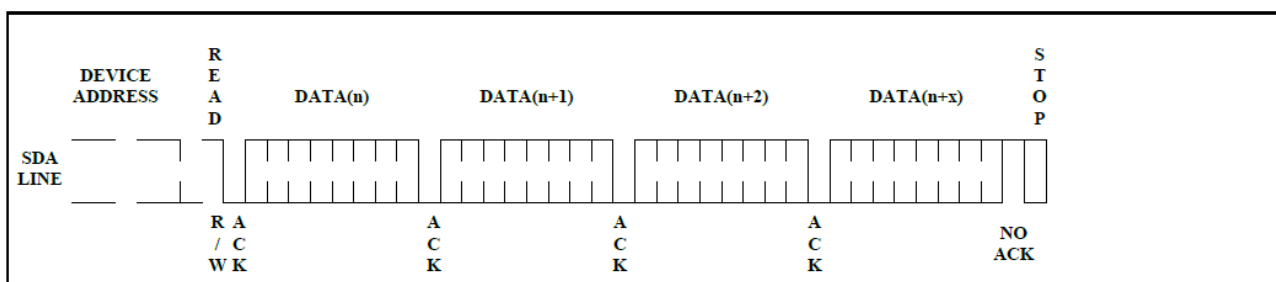

Figure8 Sequential Read
**SEQUENTIAL READ:** Sequential reads are initiated by either a current address read or a random address read. After the microcontroller receives a data word, it responds with an acknowledge. As long as the EEPROM receives an acknowledge, it will continue to increment the data word address and serially clock out sequential data words. When the memory address limit is reached, the data word address will “roll over” and the sequential read will continue. The sequential read operation is terminated when the microcontroller does not respond with a “0” but does generate a following stop condition (see Figure 8)